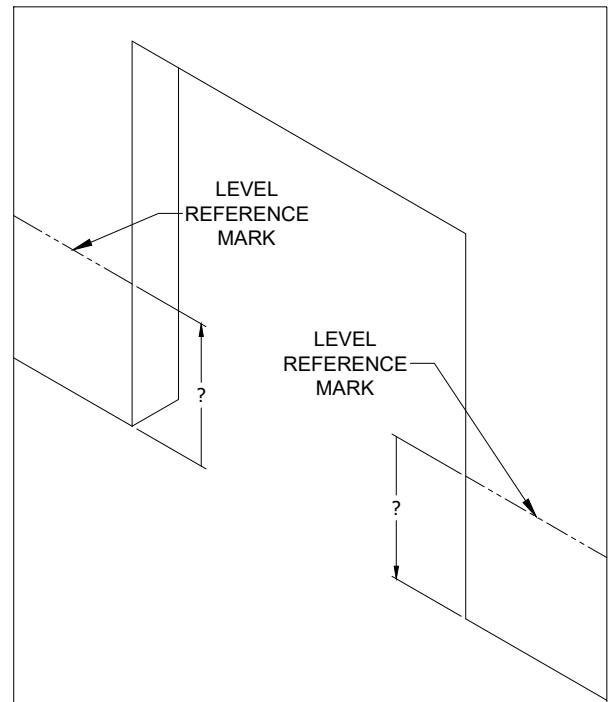

FIGURE 16
- b. Guide angles are designed to be set upon the floor unless one angle requires the use of shims at the floor level to Create guide elevations as shown in Figure 16.
- b.a. Create level elevation marks at left and right jamb faces using a level reference device or survey instrument as shown in Figure 16.